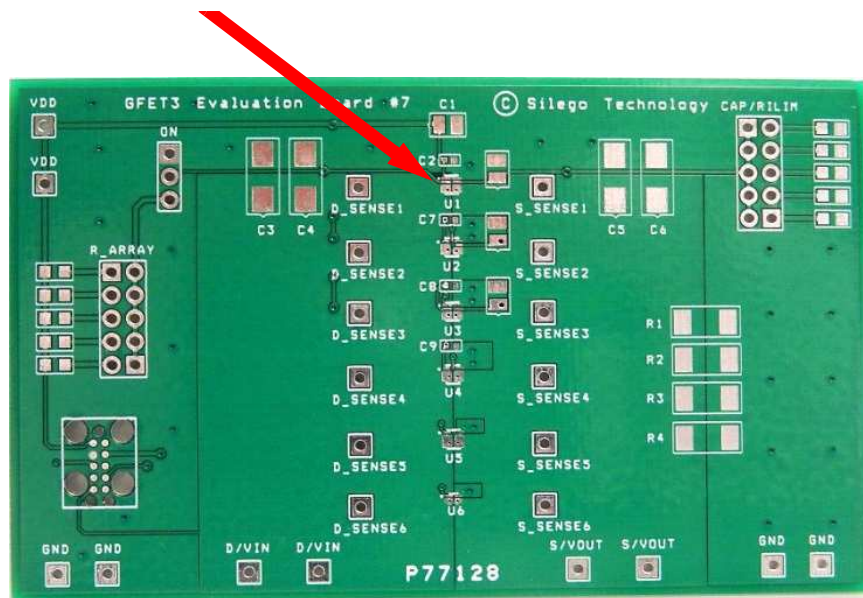

Figure 1. SLG59M301V Evaluation Board.
2. Since the D/VIN and S/VOUT pins dissipate most of the heat generated during high-load current operation, it is highly recommended to make power traces as short, direct, and wide as possible. A good practice is to make power traces with an absolute minimum widths of 15 mils (0.381 mm) per Ampere. A representative layout, shown in Figure 1, illustrates proper techniques for heat to transfer as efficiently as possible out of the device;
A GreenFET Evaluation Board for SLG59M301V is designed according to the statements above and is illustrated on Figure 1. Please note that evaluation board has D_Sense and S_Sense pads. They cannot carry high currents and dedicated only for RDS_{ON} evaluation.